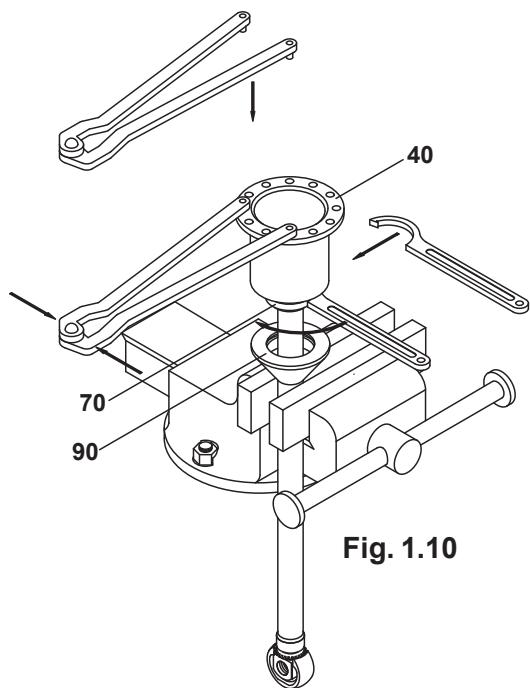

Fig. 1.10
1.5.02) Lower the cone pos. 90 and use the special half-moon spanner to loosen the ring nut pos. 70 and tighten the bottom casing pos. 40 slightly (Fig. 1.10).